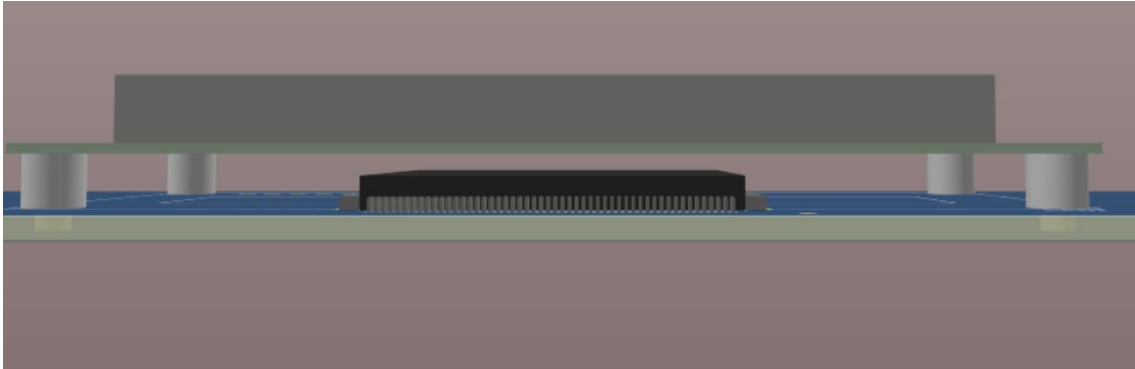

Figure 5. Sufficient vertical clearance
22. Since there is enough vertical clearance, no DRC violations are generated, as shown back in 3D mode in Figure 5 (switching to 3D mode not required yet).